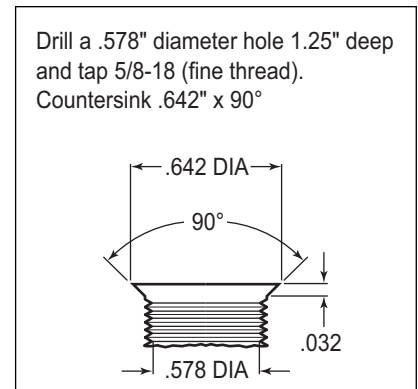

Figure 3. Drill and Tap Detail
Top anchor pin hole (Z) must be drilled and tapped to the dimensions as outlined in figure 3.